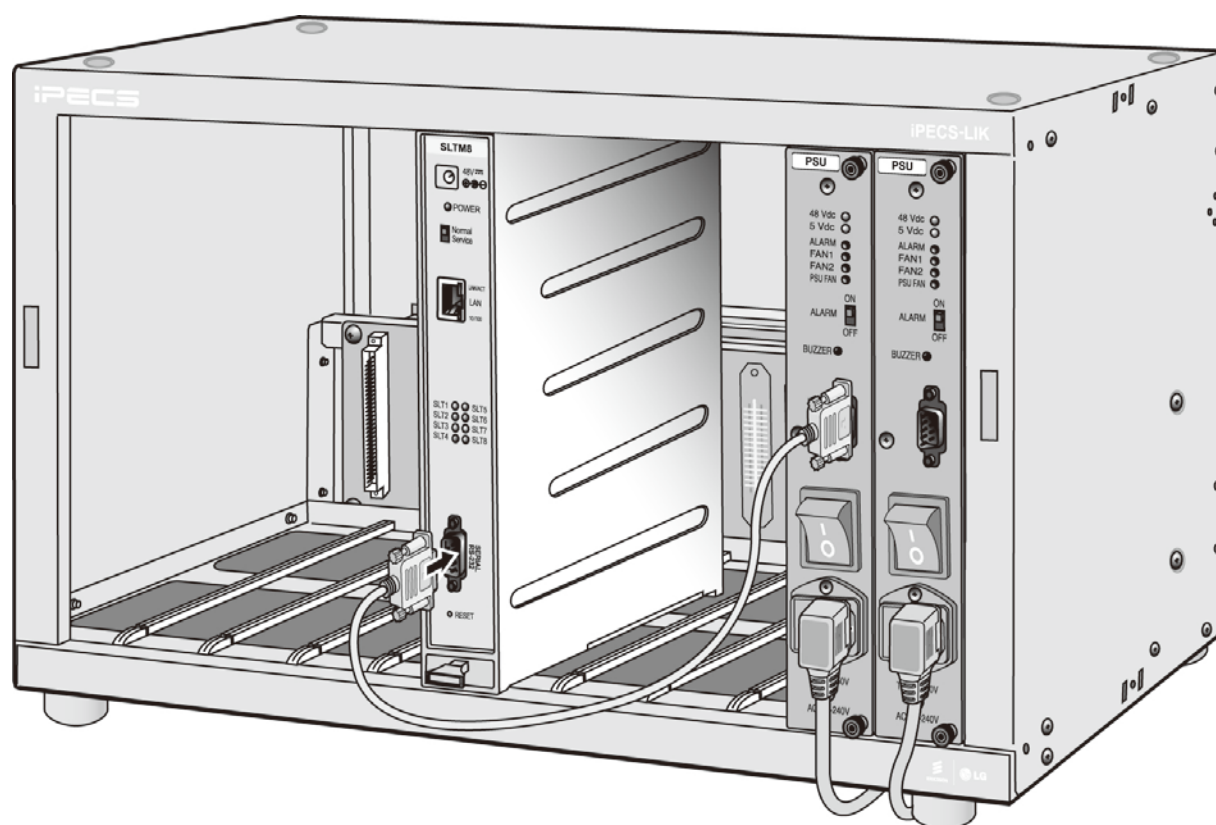

Figure 4.4-3 Monitoring cable Installation
PGM 197. Refer to Figure 4.4-3. Note when a back-up PSU is installed, the serial cable is connected to the back-up PSU only. Note that when employing a WTIM as the notifying gateway Module, Dip switch 3 of the WTIM, the Serial Mode switch, must be set to OFF, the Main CPU Serial mode.
- To activate monitoring of the PSU and Main Cabinet fans, connect the supplied serial cable from the DB9 connector of the PSU to the monitoring gateway Module defined in admin PGM 197. Refer to Figure 4.4-3. When a back-up PSU is installed, the serial cable is connected to the back-up PSU only. Note that when employing a WTIM as the notifying gateway Module, Dip switch 3 of the WTIM, the Serial Mode switch, must be set to OFF, the Main CPU Serial mode.